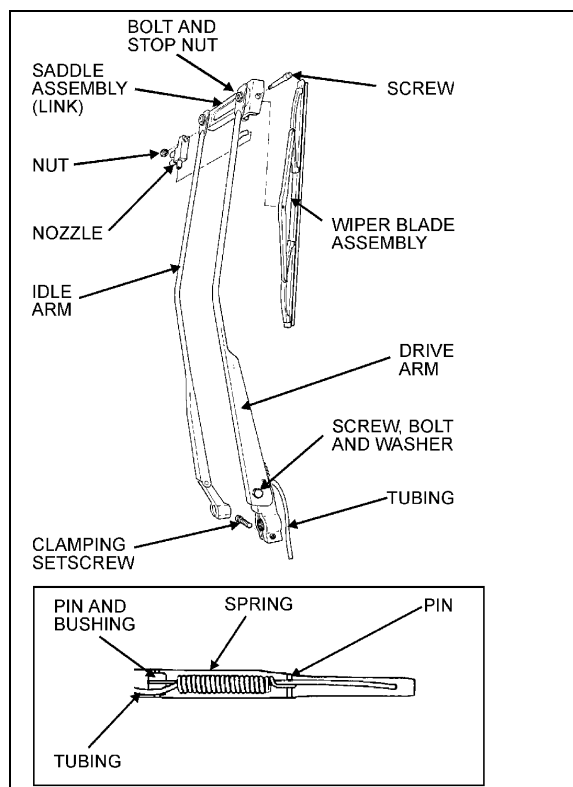
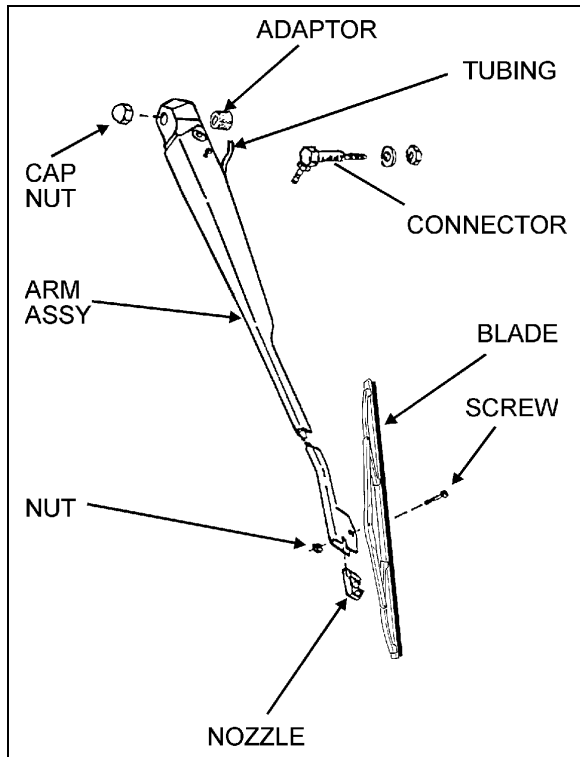

FIGURE 36: LOWER WINDSHIELD WIPER
FIGURE 37: UPPER WINDSHIELD WIPER
1. Remove the cap nuts from the wiper arm pivot shafts (Figure 36 & Figure 37);